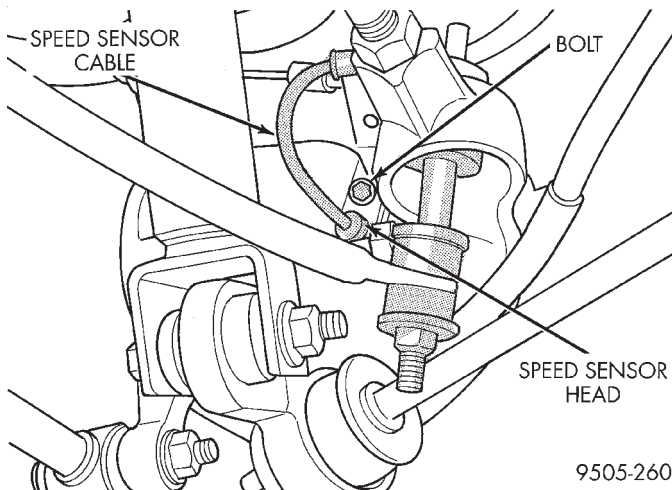

Fig. 18 Speed Sensor Head Attachment To Brake Support Plate
(6) If vehicle is equipped with ABS brakes, install speed sensor head into rear brake support plate (Fig. 18). Torque speed sensor head mounting bolt to 7 N·m (60 in. lbs.).